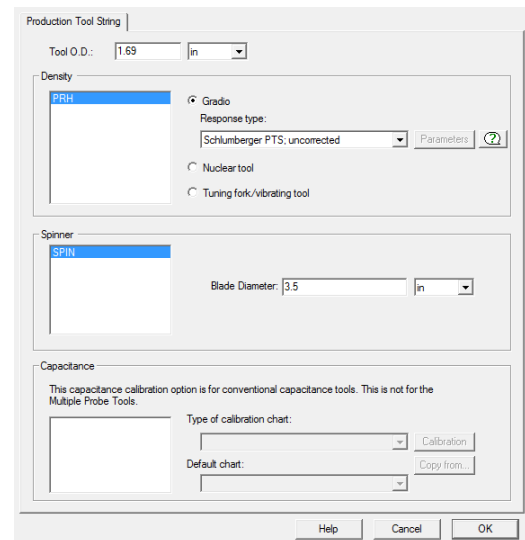

Fig. B02.7 • Tool information dialog
- Click on the 'Tool Info' option and change the following settings (Fig. B02.7):